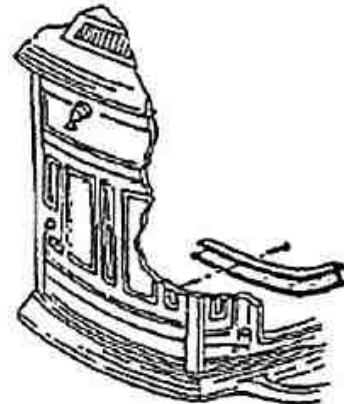

FIG. 15 REPLACE PRIMARY AIR TUBE
- Replace the primary air tube on the left end. (Fig. 15).